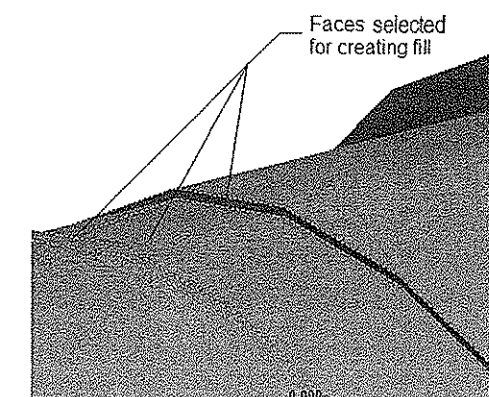

Figure 7-79 Selecting faces
44. Now, select the faces shown in Figure 7-79.